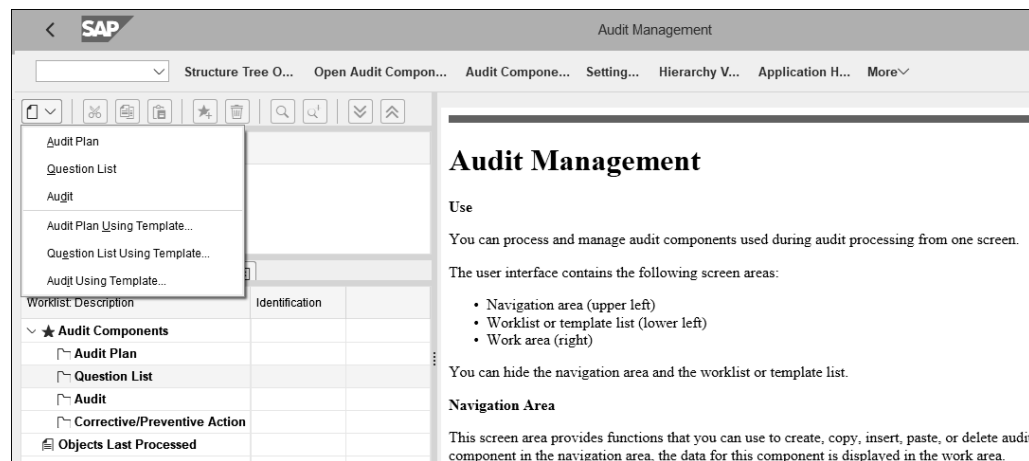
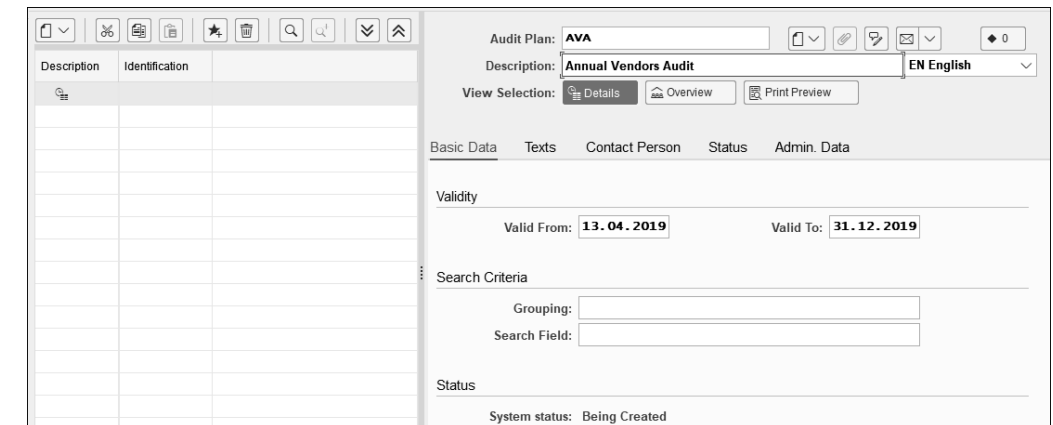
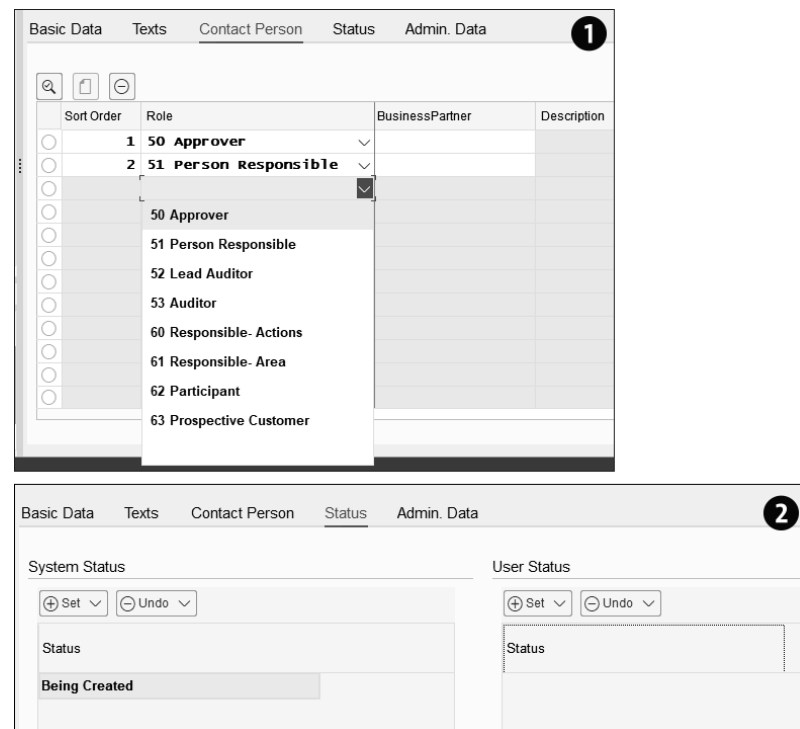
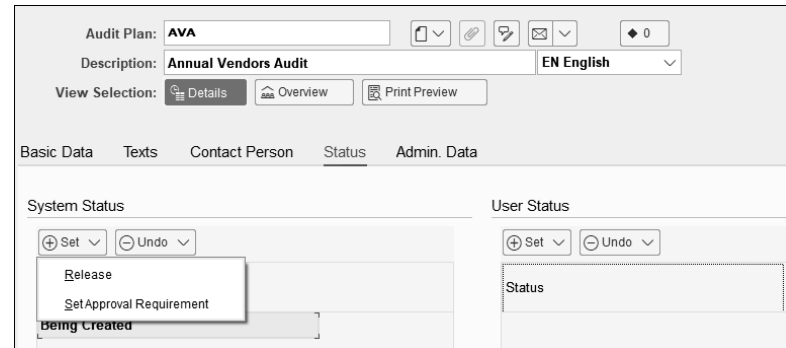

Figure 14.2 Audit Management Workbench
Figure 14.3 Audit Plan
Figure 14.4 Contact Person and Status in Audit Plan
Figure 14.10 Releasing Audit Plan
You can access the audit management work area from Transaction PLMD\_Audit or menu path **Logistics • Quality Management • Audit Management • Audit Management**. The resulting screen, shown in Figure 14.2, divides the entire audit management work area into three distinct sections. In the top-left-hand work area (known as the structure tree), the system provides options to create new objects, such as an audit plan, audit, or question list. You can also copy one audit item to another, delete an item within audit management, or even look up specific information. All these options are available via the icons' texts available at the top-left-hand side of Figure 14.2.
Choose **New** in Figure 14.2 to create a new audit plan, question list, or audit either from scratch or using a template. Choose **Audit Plan**, and the system brings up the screen shown in Figure 14.3.
Choose the **Contact Person** tab in Figure 14.3, and the system brings up the screen shown in Figure 14.4 ❶. Here, you enter the roles and names of the people who will be part of the audit plan team. You can assign responsibilities to the relevant persons, and then in all subsequent status updates or reporting, information on participants helps in finding whose tasks are pending or overdue, or even which resource/participant is assigned to what task(s).
Choose the **Status** tab in Figure 14.4 ❷. Here, the current status of the audit plan is still in the creation phase. Save your audit plan. The next step is to create an audit.
Referring back to Figure 14.3, first the default or current system status of an audit plan is created. Figure 14.10 shows the **Status** tab, in which you choose **Set** to set the status of the audit plan to **Release**. If you choose **Set Approval Requirement**, then the system offers options to either approve or reject the audit plan. Once the audit plan is approved, you then have to release it. Save your entries.